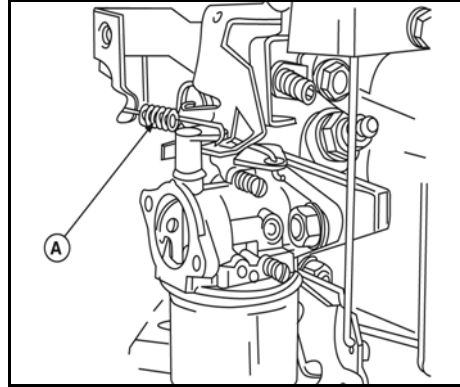
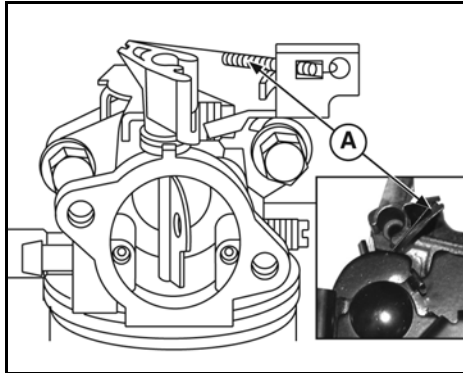

Figure 23
Figure 24
5. Connect the Choke-a-Matic® spring (if equipped) to choke lever (A, Figure 23, Figure 24).